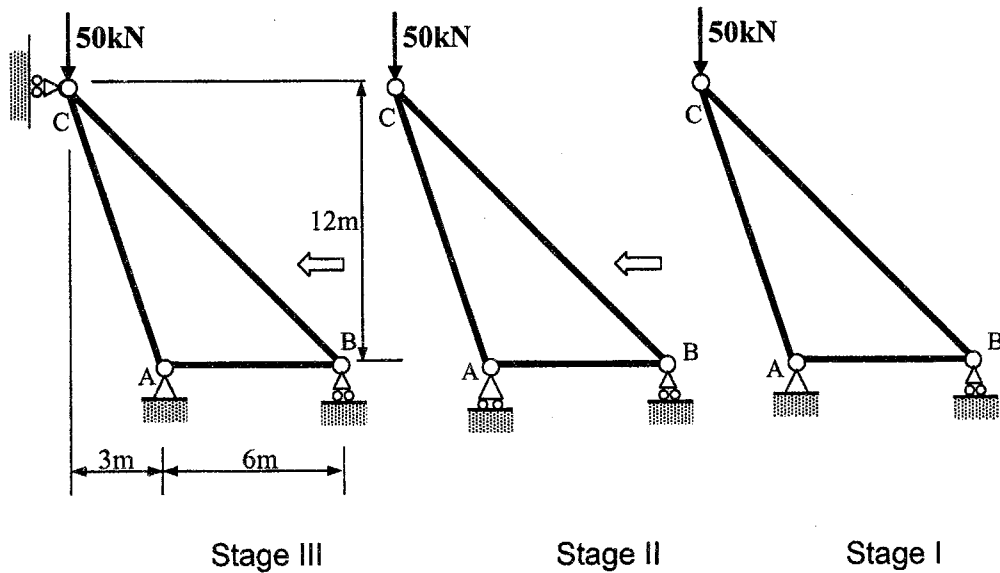

Figure 3
2. [b] Figure 3 shows the construction sequence of a giant triangular pin-jointed truss. At the final stage III, the truss will be pinned at A and roller supported at B and C. The geometry of the truss will remain the same and a vertical load of $P = 50\text{kN}$ will act at joint C during all three stages I, II, III.